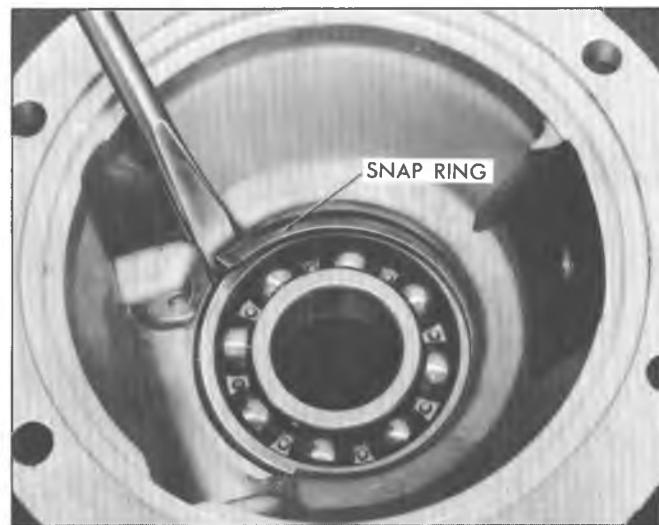

Fig. 7B-17S--Removing Rear Output Bearing Retaining Ring
3. Using a screwdriver, pry behind open ends of snap ring and remove snap ring retaining rear bearing in housing (Fig. 7B-17S).
5. To remove the front bearing, insert a long drift through rear opening and drive the bearing from the housing (Fig. 7B-18S). Remove and discard rubber seal.